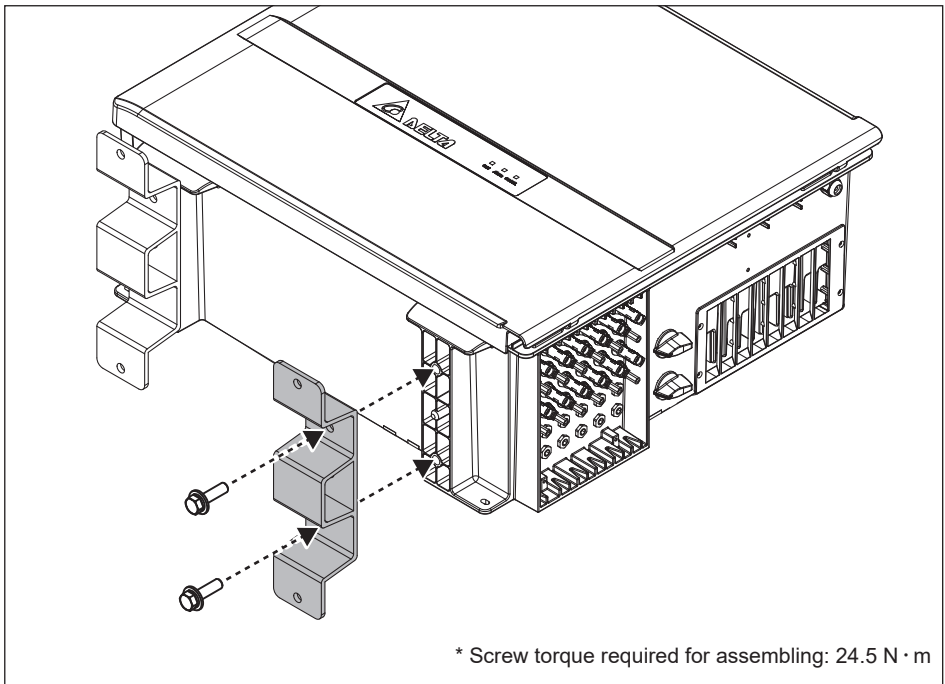

Figure 3-10 : Lock the grounded brackets to feet
1. Fix the grounded brackets to the bottom of the inverter as **Figure 3-10**.